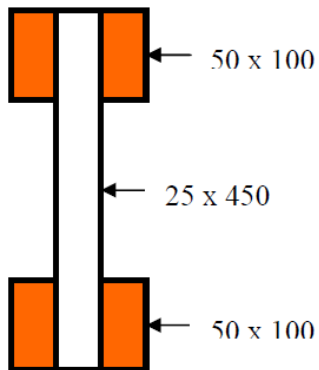

Fig. 9.3
- 9.3 A beam is made of four 50 mm \times 100 mm full sized Fir pieces which are glued to 25 mm \times 450 mm Fir plywood as shown in Fig 9.3. Determine the maximum allowable shear force and the B.M. which the section can carry, if the allowable bending stress is 10 MPa; allowable shear stress in the wood is 0.8 MPa and allowable shear stress in the glued joint is 0.4 MPa.